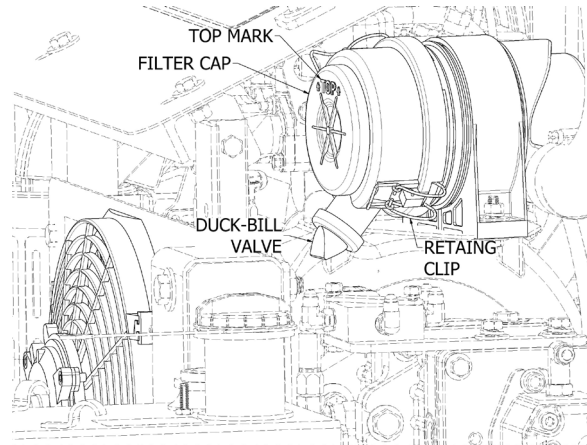

Figure 5.9 – Engine Air Filter
Inspect the filter once each week for excess dirt and plugging. Also, when inspecting the air filter open the duck-bill valve (See Figure 5.9) to remove excess dust and dirt.
1. Locate the engine air filter under the main shield behind the hydraulic cooling fan. See Figure 5.9. Change according to the maintenance schedule at the beginning of the chapter or more frequently when operating in extremely dusty conditions.
2. Remove the filter cap by unsnapping the two retainer clips on each side of the filter housing. See Figure 5.9.
5. Re-install the filter element into the housing and make sure it is fully seated. Install the filter cover with the TOP mark and arrows facing upward. See Figure 5.9. Check to be sure the filter cap retainer clips are properly closed and seated.